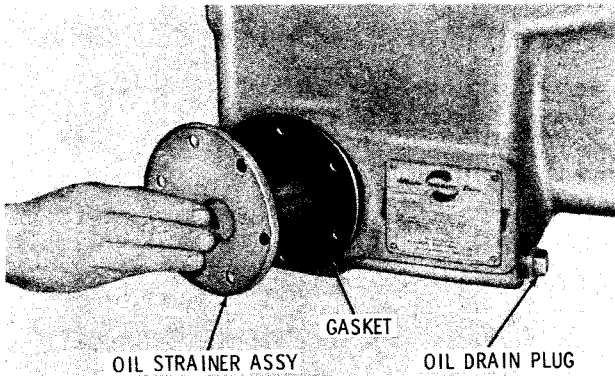

Fig. 5-2. Removing oil strainer and gasket
c. Oil Strainer Assembly. Remove the six bolts and lockwashers that retain the oil strainer assembly (fig. 5-2). Remove the oil strainer and gasket. Remove the oil drain plug.